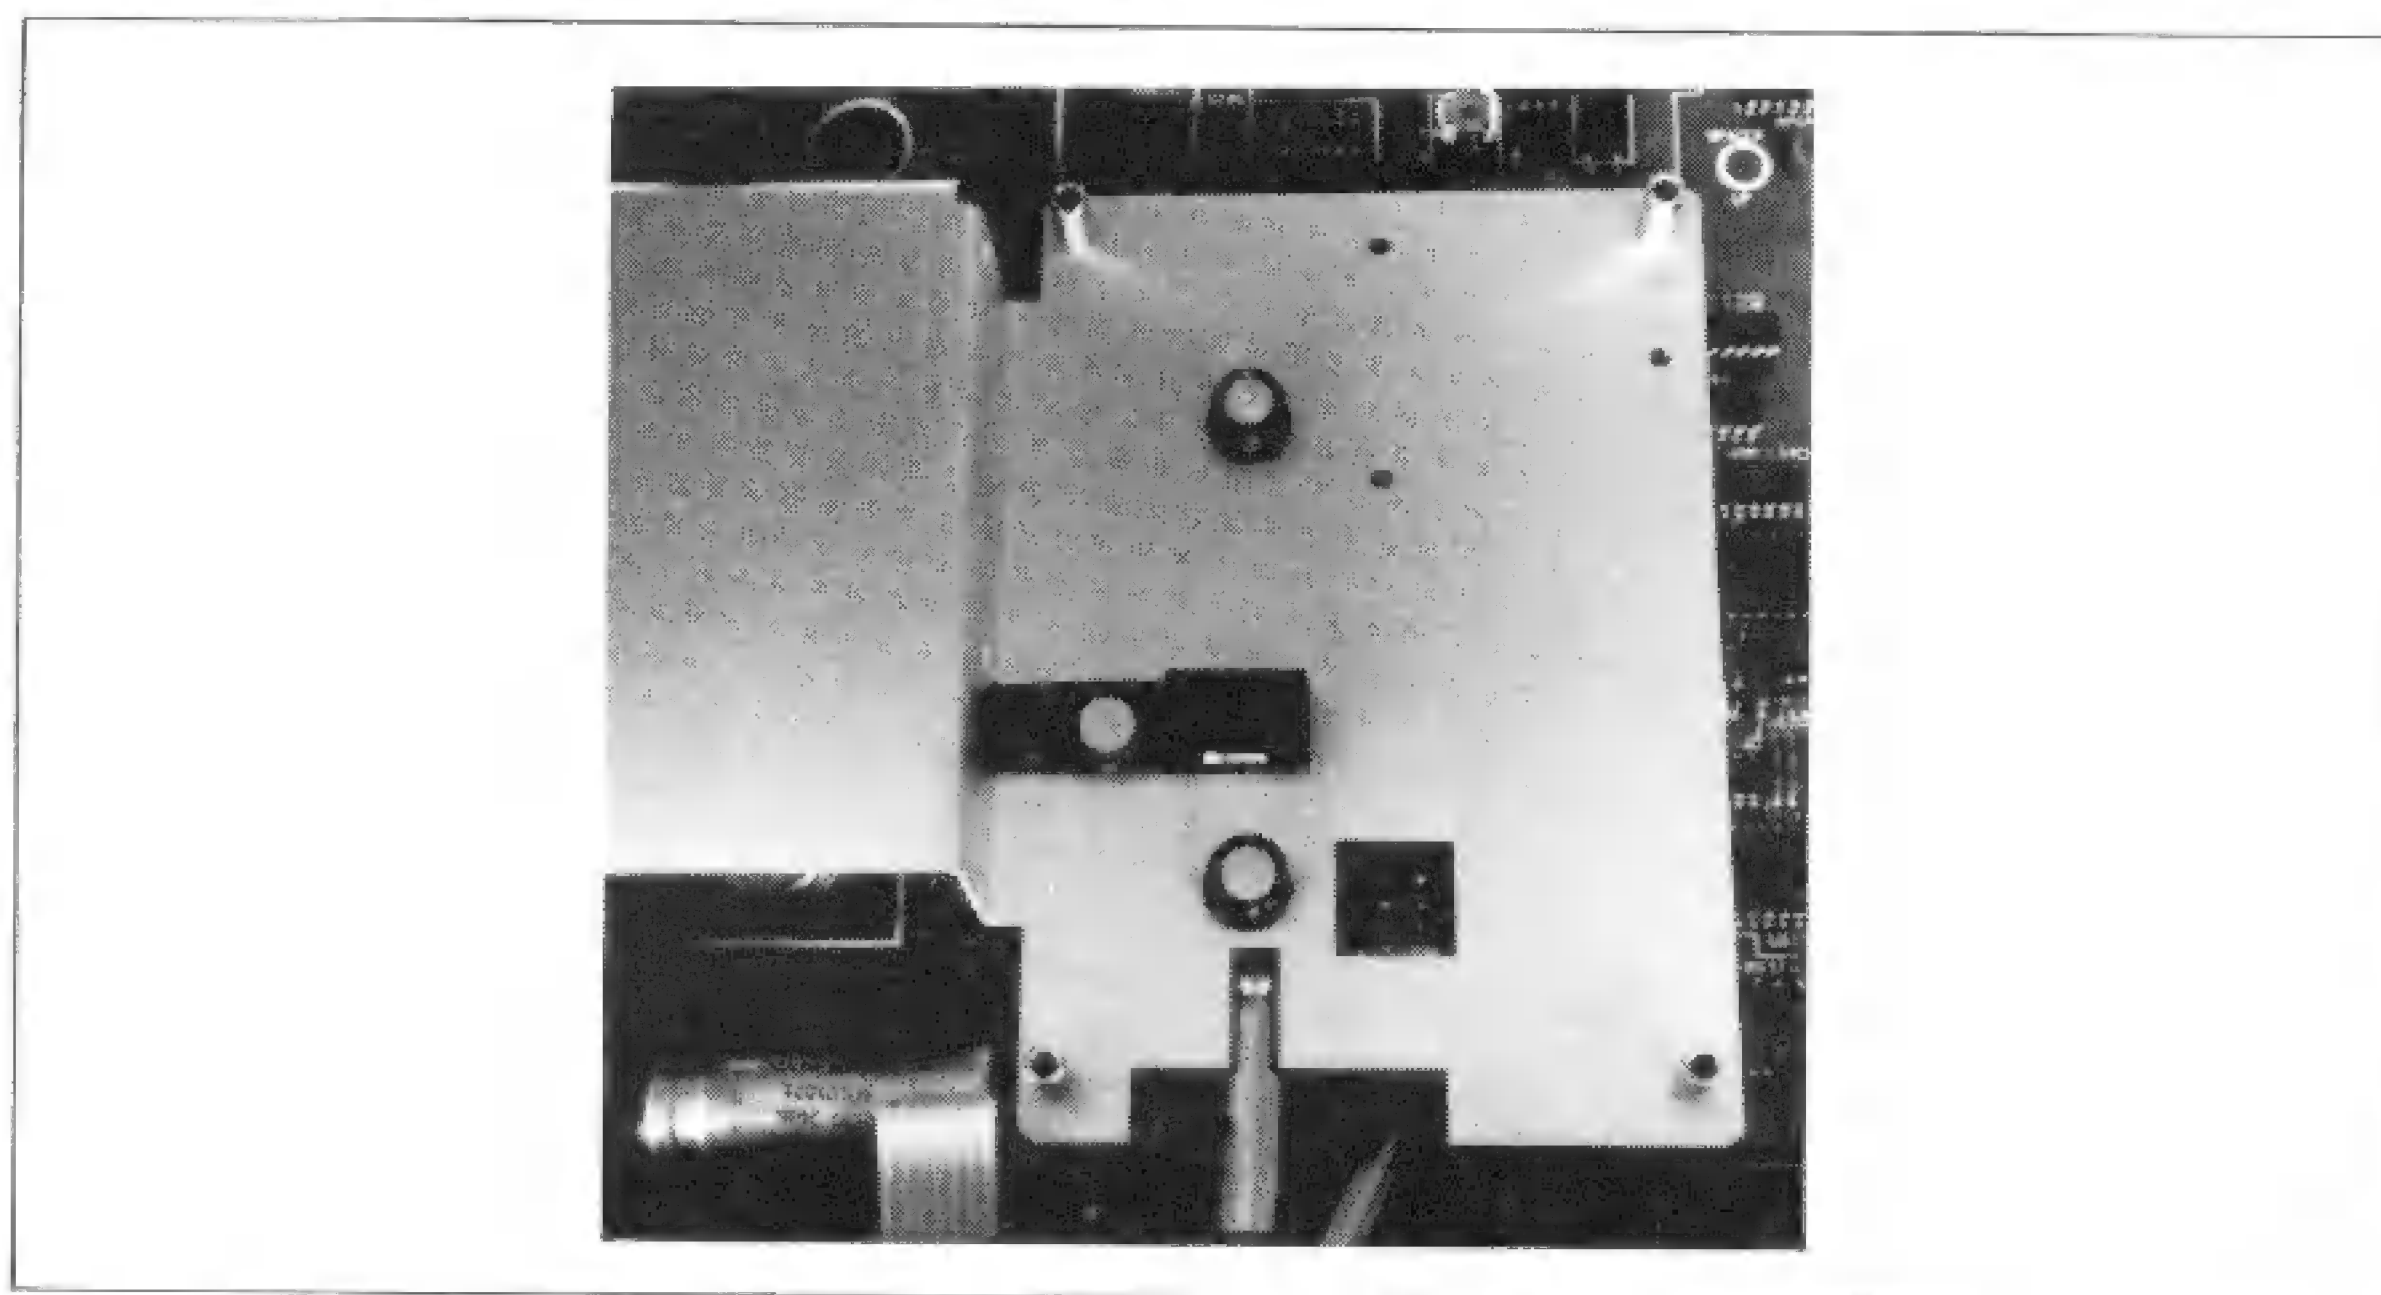

Figure 1-8-11. Set Bottom Shield in Place
- b. Set the bottom shield in place as shown in Figure 1-8-11. Now replace the front panel.
*Figure 1-8-11 shows the shield used when the HP-IB option is installed. If the instrument does not have the HP-IB option, the shield is different than what is shown. The HP-IL shield extends over the rear panel HP-IL connector and has longer standoffs to make the option in slot 2 align properly.*